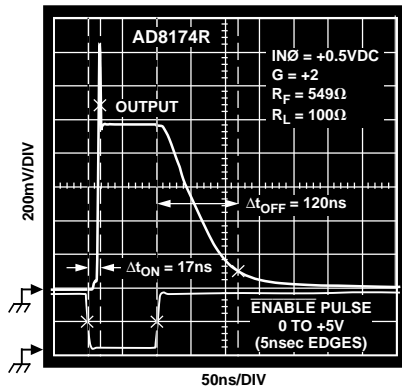

Figure 5. Enable and Disable Switching Characteristics
- ¹Shutdown (SD) and $\overline{\text{ENABLE}}$ pins are grounded (AD8174). IN0 (or IN2) = +0.5 V dc, IN1 (or IN3) = -0.5 V dc. SELECT (A0 or A1 for AD8174) input is driven with 0 V to +5 V pulse. Measure transition time from 50% of SELECT (A0 or A1) input value (+2.5 V) and 10% (or 90%) of the total output voltage transition from IN0 (or IN2) channel voltage (+0.5 V) to IN1 (or IN3 = -0.5 V) or vice versa.
- ²AD8174 only. Shutdown (SD) pin is grounded. $\overline{\text{ENABLE}}$ pin is driven with 0 V to +5 V pulse (5 ns rise and fall times). State of A0 and A1 logic inputs determines which channel is activated (i.e., if A0 = Logic 0 and A1 = Logic 1, then IN2 input is selected). Set IN0 (or IN2) = +0.5 V dc, IN1 (or IN3) = -0.5 V dc, and measure transition time from 50% of $\overline{\text{ENABLE}}$ pulse (+2.5 V) to 90% of the total output voltage change. In Figure 5, Δt_{OFF} is the disable time, Δt_{ON} is the enable time.